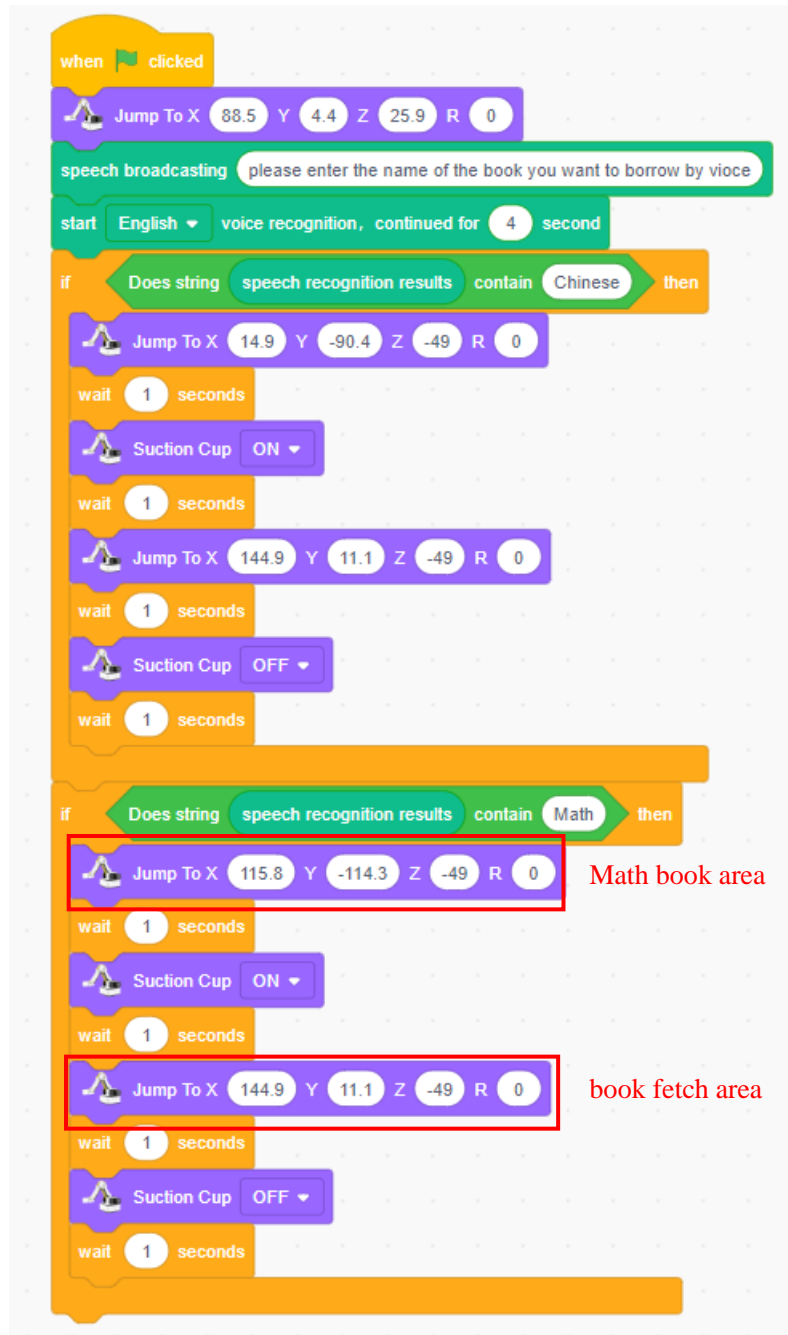

Figure 5.16 Borrowing the mathematics book
Step 10: Determine whether the student's voice contains the word "math". If yes, move the robotic arm to the mathematics book area and grab it to move it to the book fetch area, as shown in Figure 5.16.